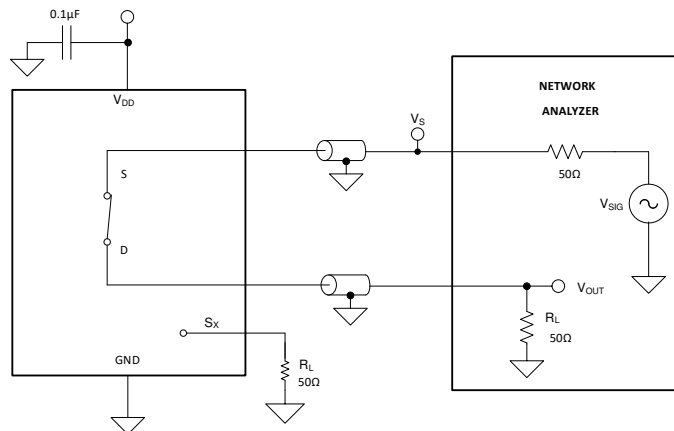

**Figure 6-9. Crosstalk Measurement Setup**
Crosstalk is defined as the ratio of the signal at the drain pin (D) of a different channel, when a signal is applied at the source pin (Sx) of an on-channel. Figure 6-9 shows the setup used to measure, and the equation used to calculate crosstalk.